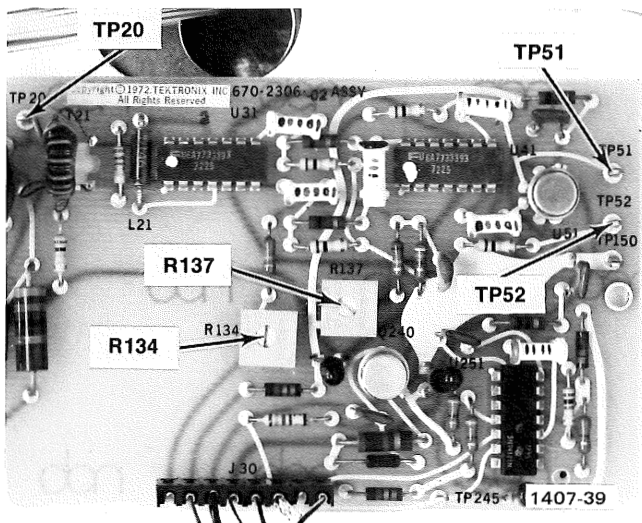

Fig. 3-12. Test points and adjustment locations on the 613 Hard Copy Amplifier boards.
- Connect a 10X probe from Channel 1 of the test oscilloscope to TP51 on the 613 Hard Copy board and another 10X probe from the test oscilloscope Channel 2 to TP52 on the Hard Copy board (see Fig. 3-12). Ground the probe ground clips to the chassis ground.